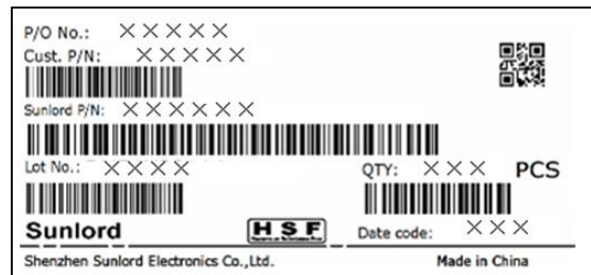

Fig.9.2.3-2A
- 2) Fig.9.2.3-2B: Production labels